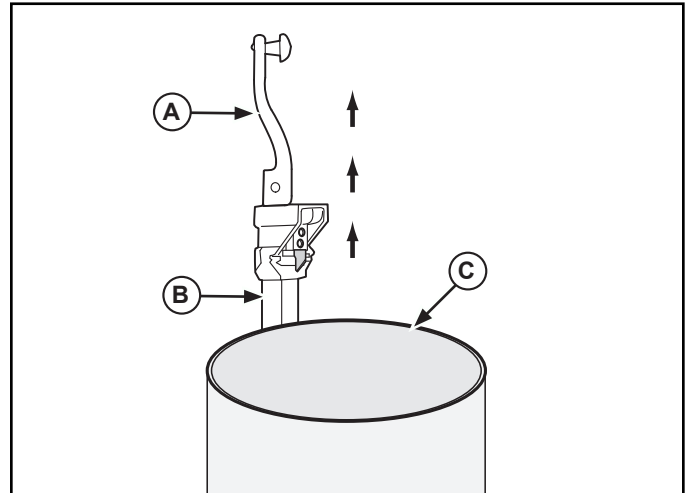

Figure 7. Removing the Bar, Handle and Can.
7. Put the handle (A) to the vertical position. Raise the handle (A) and bar (B) up. Remove the can (C) from the can opener base. See Figure 7.